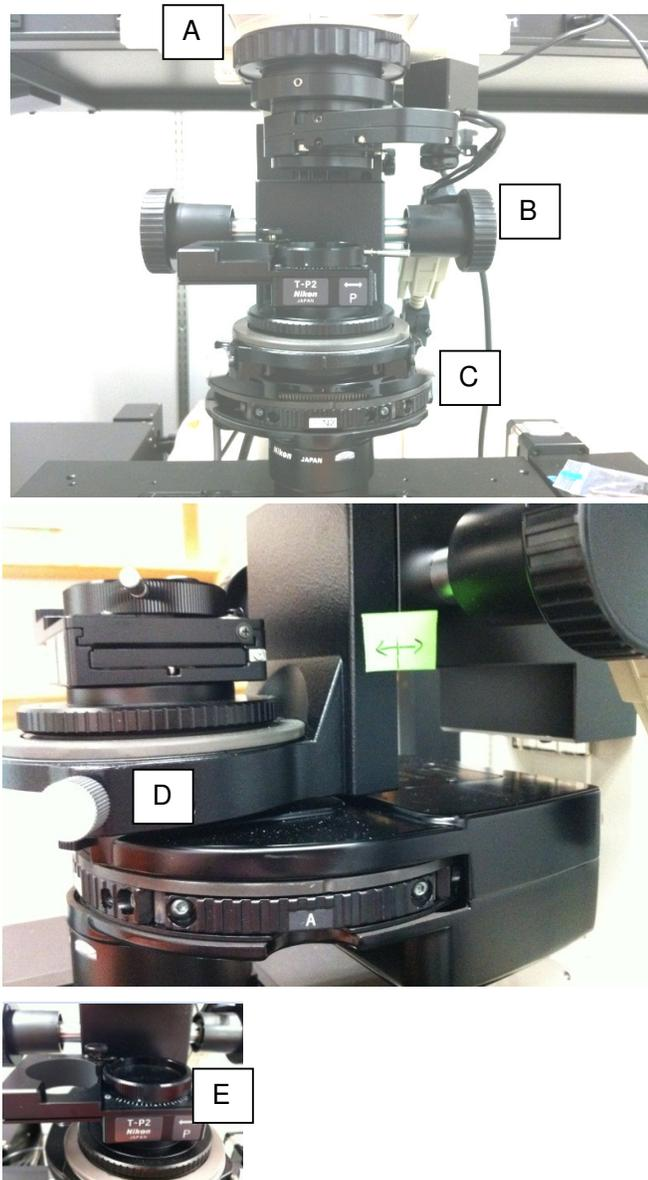

Figure 19. Different views of the the condenser.
5.7.2 Kohler Illumination. The condenser (Figure 19) is used to focus light on the sample in transmitted light optics. If transmitted light optics are not needed, this subsection can be skipped. The various parts of the condenser important for Brightfield or DIC optics are: (Figure 19A) The Field Aperture, (Figure 19B) The condenser focus knob,